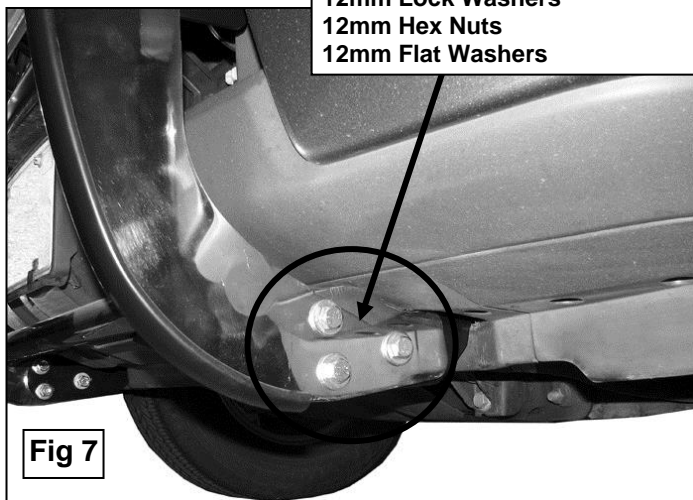

Fig 7
6. With assistance, position the Grille Guard bolt tabs up to the outside of the Mounting Brackets. Attach the Grille Guard to the Mounting Brackets using the included (6) 12mm x 35mm Hex Head Bolts, (6) 12mm Lock Washers, (12) 12mm Flat Washers and (6) 12mm Hex Nuts, (Figure 7). Do not tighten at this time.